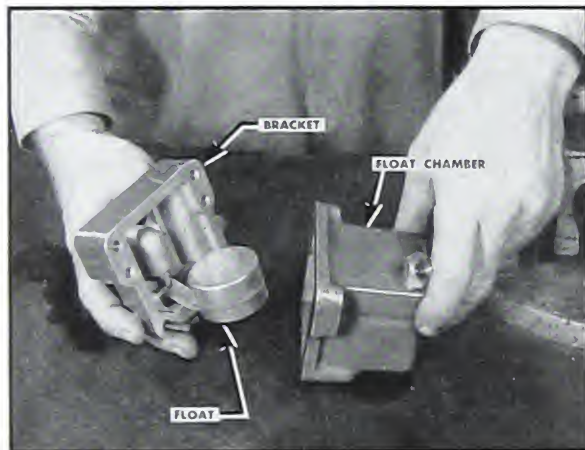

Fig. 5-271. Float chamber and bracket
bracket to the float chamber. Fig. 5-271.
13. With a new gasket, assemble the bracket to the float chamber with two $\frac{1}{4}$ —20 x $1\frac{3}{4}$ " socket head capscrews, flat washers and lockwashers. **Fig. 5-271.**